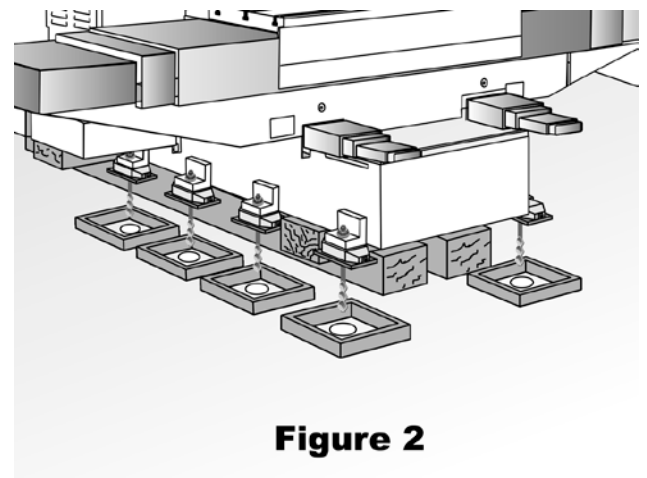

Figure 2
5. Position and install grout forms. See Figure 2. For Vibro/Dynamics Grout Forms, remove the protective paper from the Butyl Tape on *one side only* and apply around the perimeter of the Grout Form per supplied instructions. Leave the protective paper cover on the side that adheres to the floor/foundation. Thoroughly clean the floor with dry, oil-free compressed air. Peel back the remaining protective paper cover, position the grout form, and then firmly press the Grout Form to the floor/foundation and hold for 30 seconds to set the adhesive.